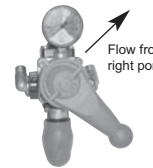

Figure 2: Right outlet port control position
3. To control to just the right outlet port, rotate the control lever to the 4:30 position such that the letters "SX" are aligned to the pressure adjustment knob. See Figure 2.